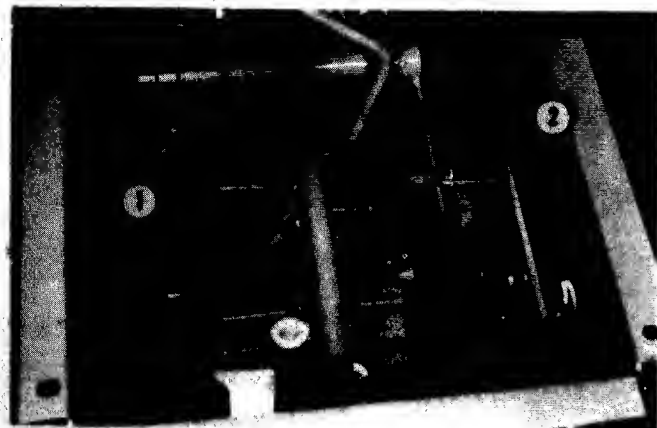

FIG. 4.14-GEARBOX LOCATION
a. Position gear box in place as shown in Fig. 4.14.